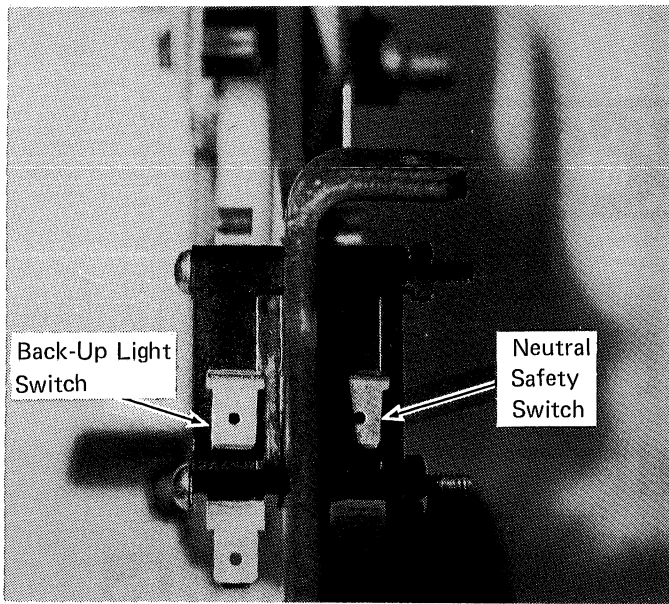
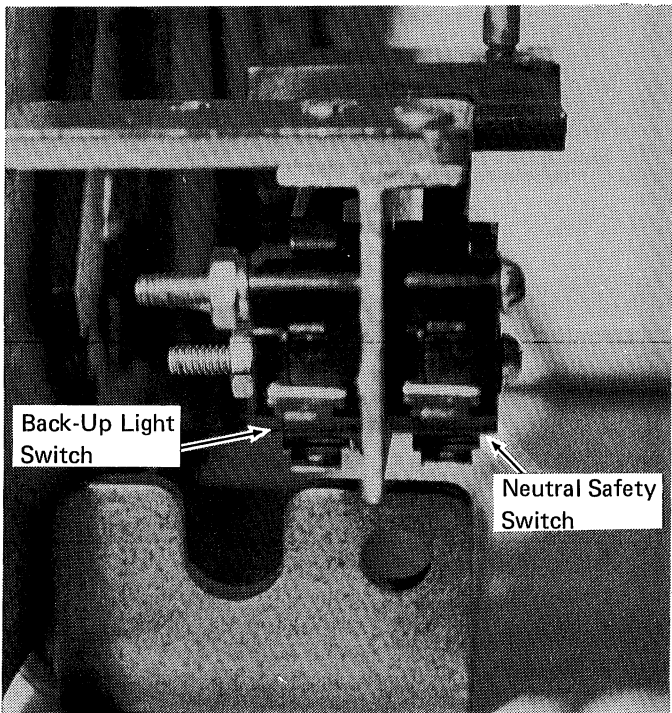

FIGURE 3
FIGURE 4
STEP 4. Place the shifter in the first gear position (handle all the way back). For **Z-Gate Shifters**, position the two microswitches as shown in Figure 3 using the mounting holes shown in Figure 2. For **StarShifters** position the two microswitches as shown in Figure 4. On **StarShifters** there are two sets of holes on the T-plate. Your new switches must mount to the two holes nearest the front of the shifter. Install the two 1/4"